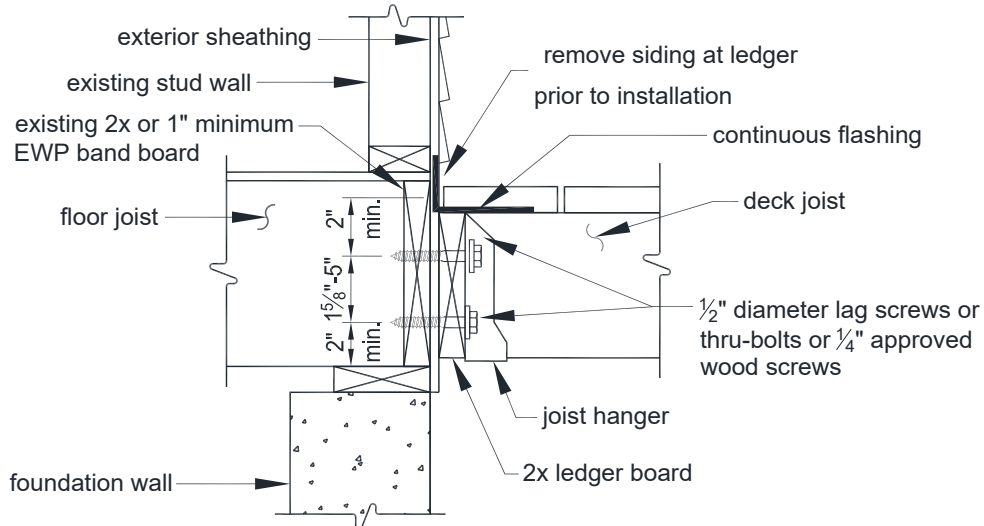

FIGURE 19: LEDGER BOARD-TO-BAND BOARD ATTACHMENT
- The ledger board shall be attached in accordance with one of the conditions shown in FIGURES 19 through 21.
- Continuous flashing, as shown in FIGURE 19, is required at the ledger board when attached to wood-framed construction.